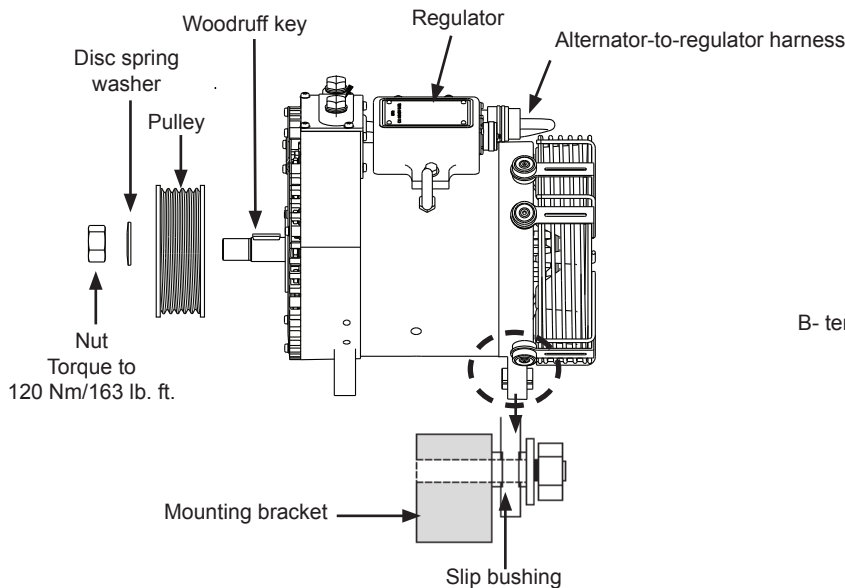

Figure 1: N1224 Alternator Installation
2. Install pulley and furnished disc spring washer with beveled side facing pulley. Torque pulley nut to 163 Nm/120 lb. ft. See Figure 1.
CAUTION Failure to tighten slip bushing in rear mounting foot against mounting bracket can result in broken mounting feet or broken bracket. See Figure 1.